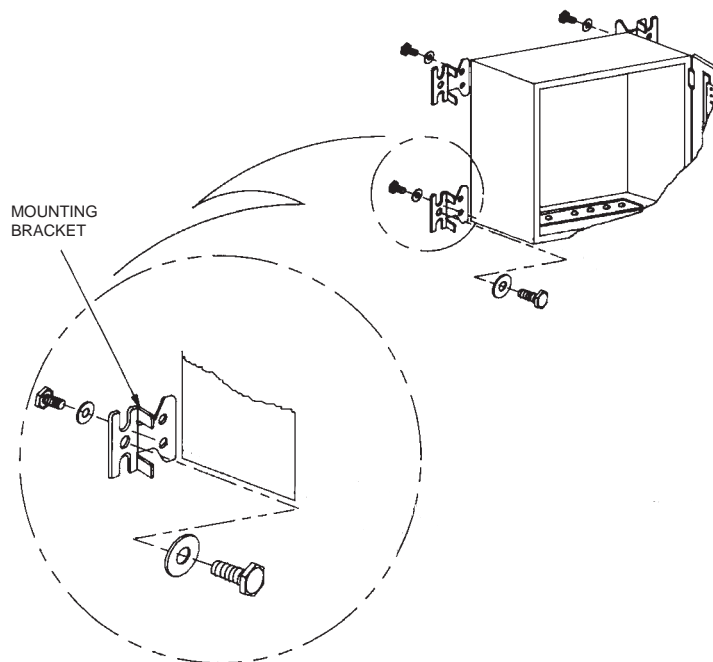

Figure 2-11 Mounting the NEMA 4 Housing
Four mounting brackets are provided, one in each corner of the RTU, for wall mounting the RTU housing (see Figure 2-9 through Figure 2-11). Figure 2-9 and Figure 2-10 show the distances between the bracket holes.
- 2) Using the brackets and the screws supplied in the plastic bag, fasten the mounting brackets, either horizontally or vertically, onto the four back corners of the housing. See Figure 2-11.
- 3) Mount the RTU onto the wall and secure with M4 screws (not supplied) with head size DIN 7981C/ST4, 2x38mm through the bracket hole. See Figure 2-11.